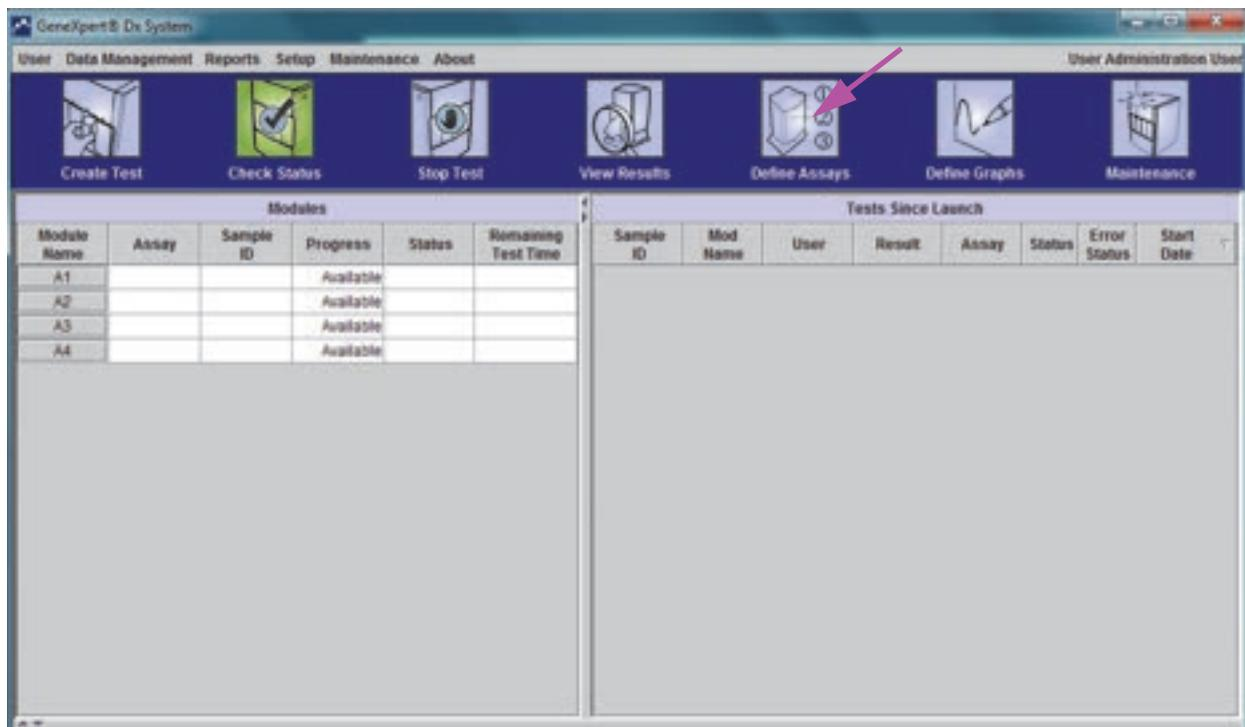

Figure 5-27. GeneXpert Dx System Window
1. Click **Define Assays** on the GeneXpert Dx System Window (see Figure 5-27).